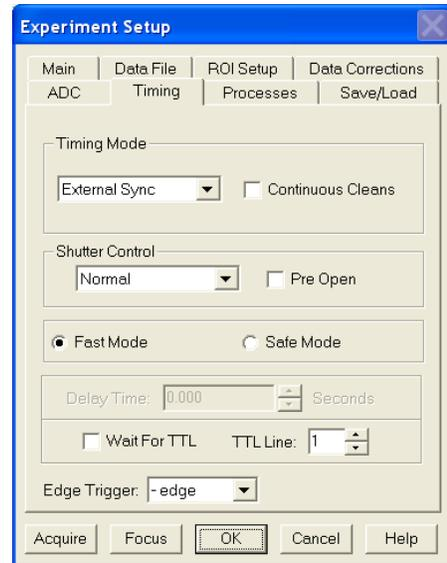

Figure 22. Timing tab
3. On the **Timing** tab (Figure 22) set the following parameters.